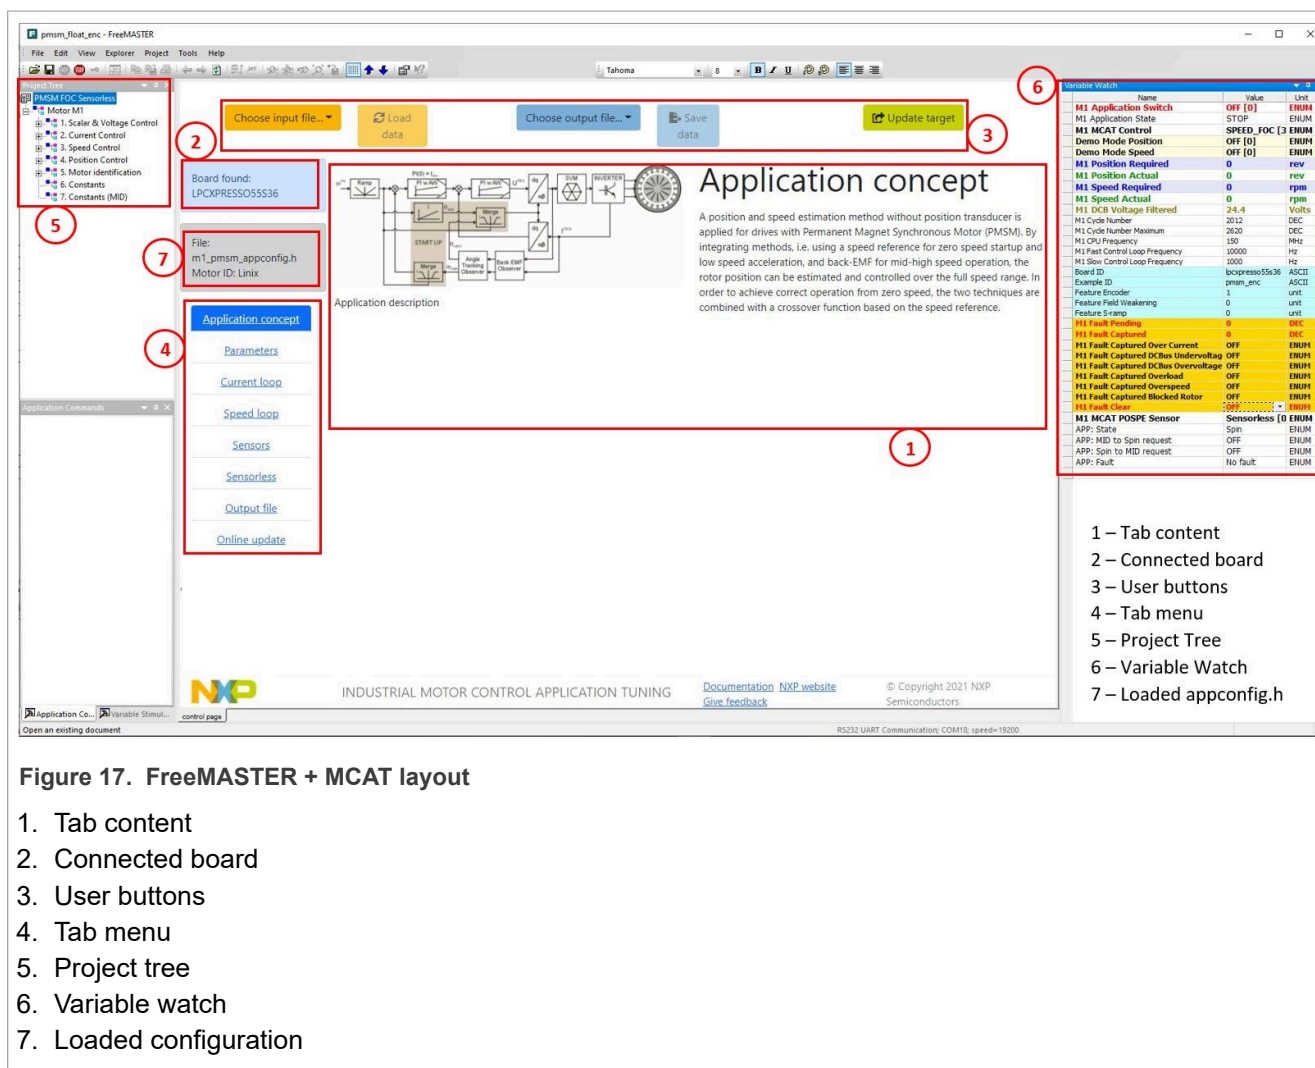

Figure 17. FreeMASTER + MCAT layout
The PMSM sensor/sensorless FOC application can be easily controlled and tuned using the Motor Control Application Tuning (MCAT) plug-in for PMSM. The MCAT for PMSM is a user-friendly page, which runs within the FreeMASTER. The tool consists of the tab menu and workspace as shown in Figure 17. Each tab from the tab menu (4) represents one submodule which enables tuning or controlling different application aspects. Besides the MCAT page for PMSM, several scopes, recorders, and variables in the project tree (5) are predefined in the FreeMASTER project file to further the motor parameter tuning and debugging simplify.